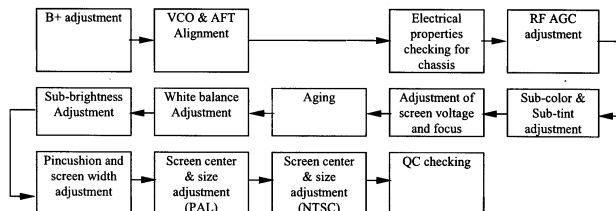

Figure 8-1 Alignment procedure
6. Connect the ComPair interface cable between the connector on the rear side of the ComPair interface (marked with 'I2C') and the ComPair (or *Service*) connector at the rear side of the TV (for its location see figure 8-1 in chapter "Alignments").